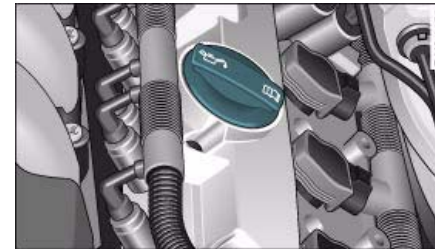

Fig. 256 Engine compartment: Engine oil filler cap
- Unscrew cap  from oil filler opening ⇒ fig. 256.